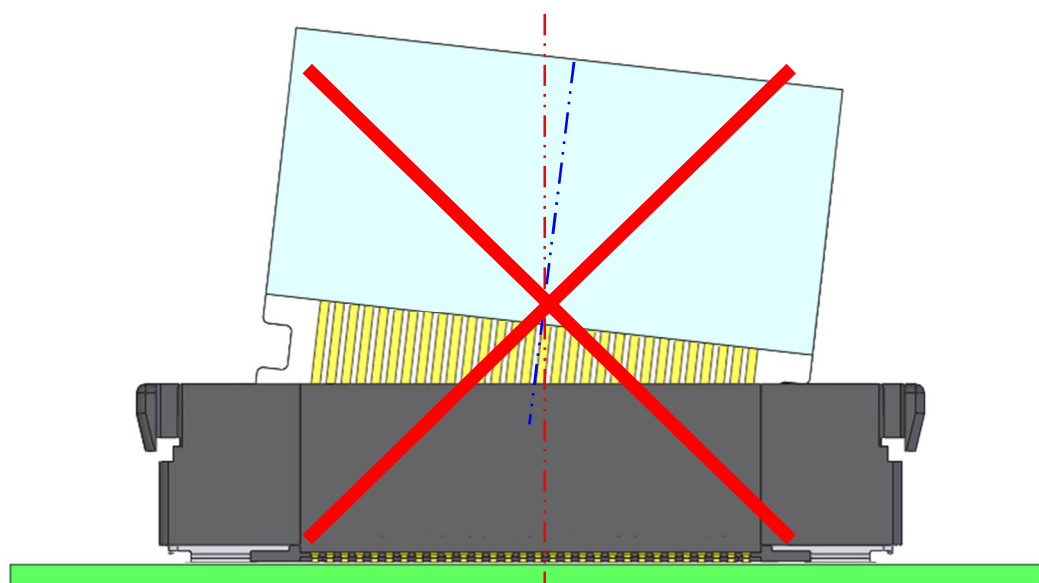

**Fig.2-3 FFC/FPC inserting method 2**
② Please insert FFC/FPC to the connector vertically and push all the way in. (Fig.2-3)